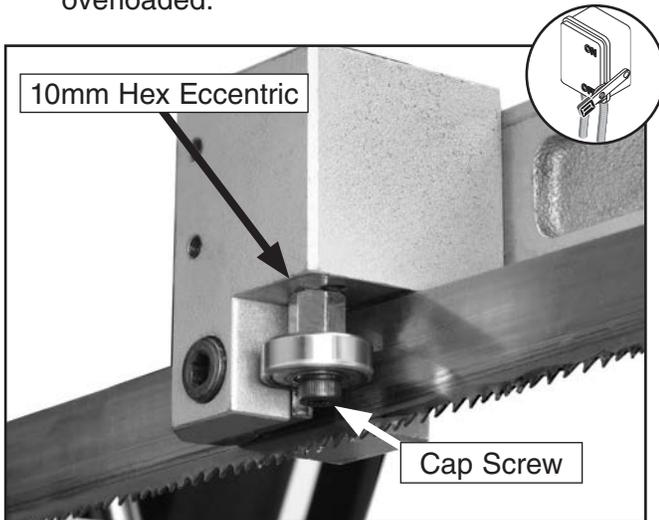

Figure 46. Upper blade guide adjustments.
- Loosen the cap screw, rotate the 10mm hex eccentric (**Figure 46**), and adjust the bearing against the side of the blade so there is no clearance, but the bearing is not overloaded.